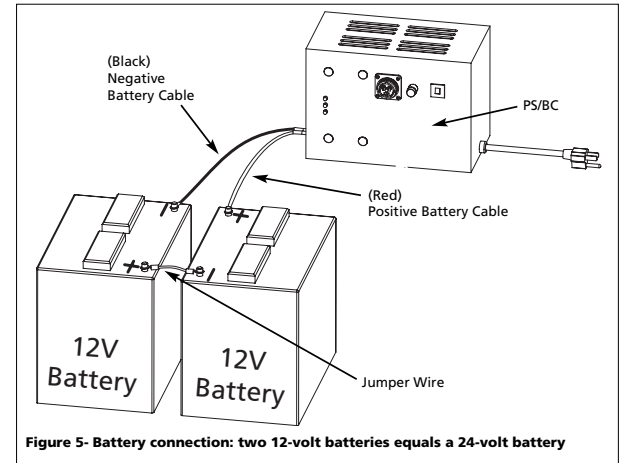

Figure 5- Battery connection: two 12-volt batteries equals a 24-volt battery
4. Place batteries side by side in battery case (see Figure 5).
7. Attach jumper wire as shown in Figure 5 to achieve 24 volts.
8. Connect PS/BC battery cables to batteries as shown in Figure 5.
10. Reinstall pump fuse. The green LED will light. If it does not light, make sure polarity of batteries and PS/BC cables are identical to Figure 5. The voltage at the PS/BC cables must be at least 18 volts or the PS/BC will not operate. Once the green LED is on, it will stay on unless the combined batteries' voltage falls below 7 volts.